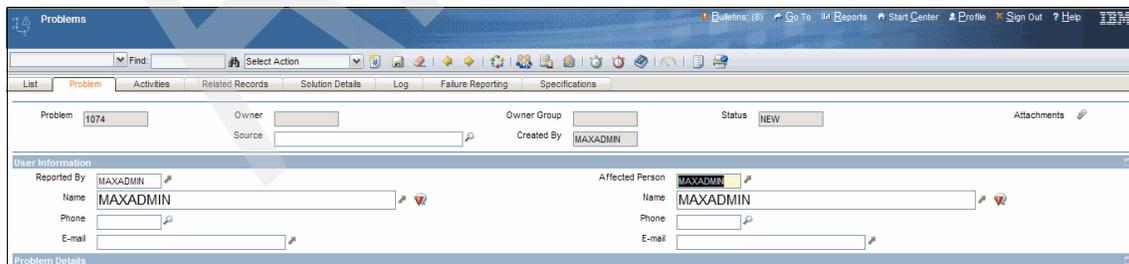

Figure 6-8 Problem window
1. Open an Incident or Problem. Refer to Figure 6-8.